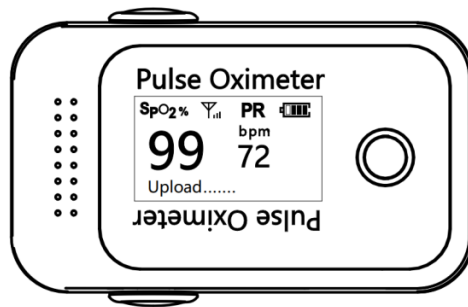

Figure 11
d. When the measurement is finished and the network is available, the upload procedure will be started automatically, as shown in **Figure11**, and it will end with success or failed, as shown in **Figure12** and **Figure13**. If the upload is failed, the current measurement record will be saved automatically and re-uploaded at next time.